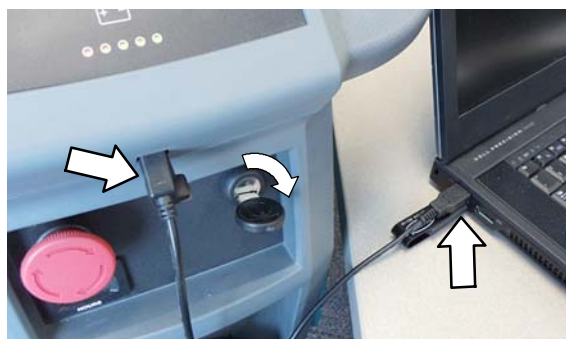

Fig. 16
- Connect the USB cable to computer and to the USB port on machine as shown. Turn the key switch to the on position (Figure 16).